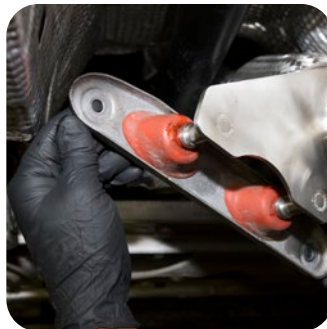

FIG. 24
- 24** Locate the Unitronic upper downpipe catted section (UH041-EX2) and install the lower subframe exhaust mount. (See Fig. 24)